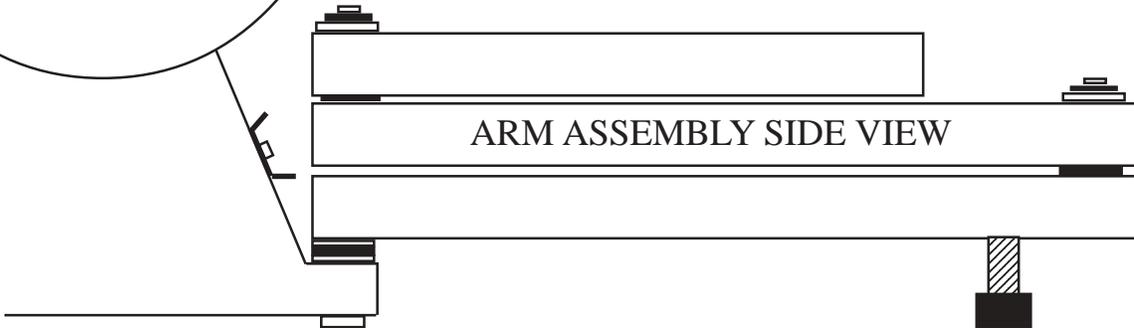

Fig. 1
1. Mount #49000 long arm to your Twice as Sharp (see figure 1).